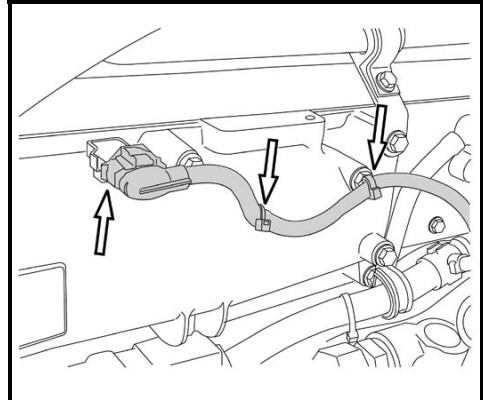

FIGURE 9
11. Disconnect the intake air temperature/ pressure sensor (fig.9). Remove all nylon cable ties and P-clamps.